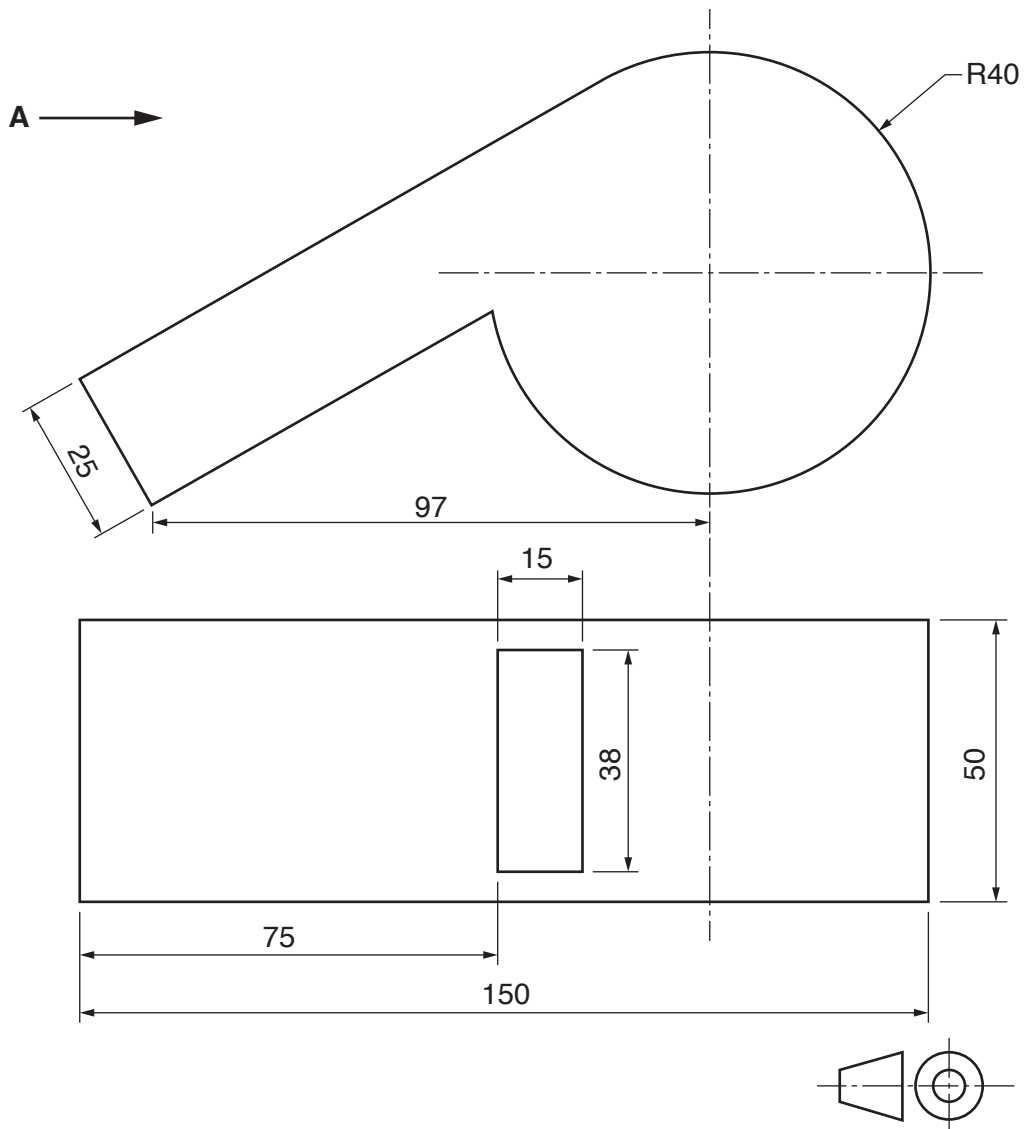

Fig. 6
- 7 Fig. 6 shows a design for a card model of a litter bin in the shape of a referee's whistle to be used at a sports event.